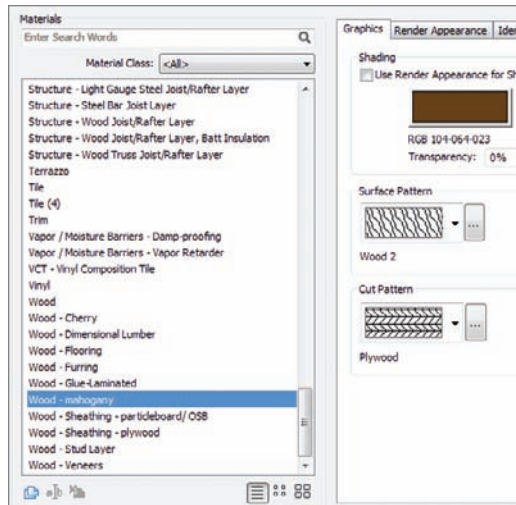

FIGURE 9.31 Altering the mahogany
11. Change Cut Pattern to Plywood, as shown in Figure 9.31.